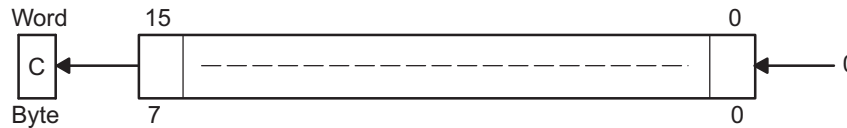

**Figure 3-14. Main Program Interrupt**
**Example** Figure 3-14 illustrates the main program interrupt.